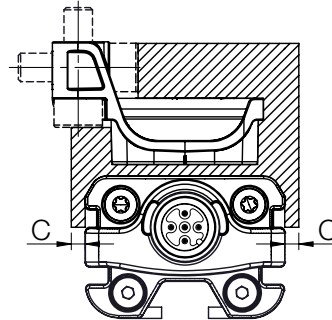

Fig. 5-5: Minimum distance C
- The distance C between the target and parts made of magnetizable material must be at least 10 mm (see Fig. 5-5).